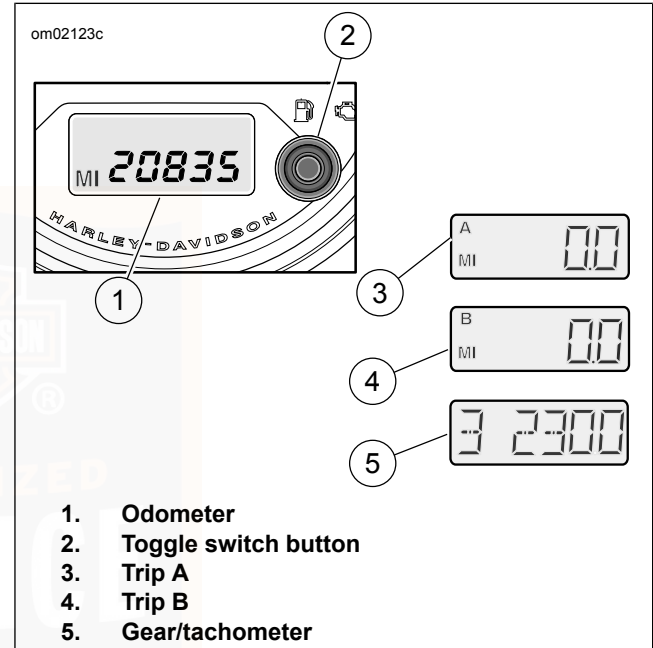

Figure 21. Gear/Tachometer/Odometer
See Figure 21. With the ignition on, press and release the toggle switch button to toggle through the odometer displays to the gear/tachometer display (5). The display shows the
See Figure 21. With the ignition on, press and release the toggle switch button (2) to toggle between the odometer (1), trip odometer A (3) and trip odometer B (4).